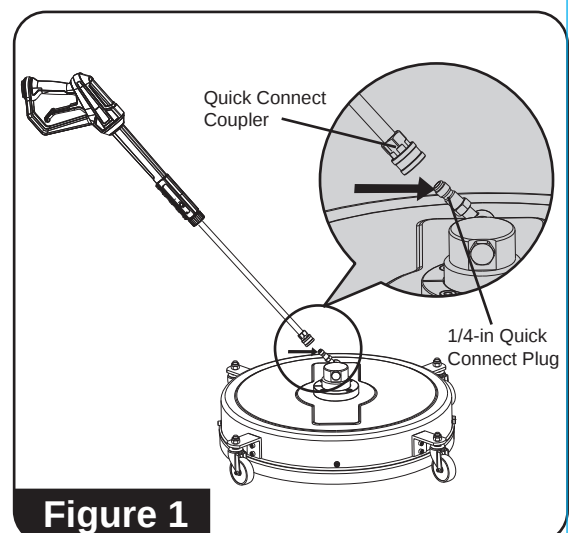

Figure 1
2. Attach the surface cleaner's 1/4-in quick connect plug into the end of the pressure washer wand (See Figure 1).